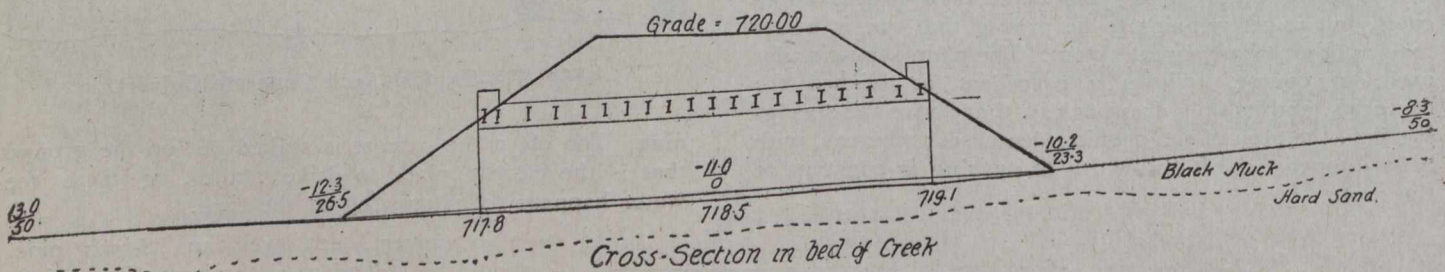

Fig. 9.
other. (Fig. 9.) A formula is convenient for estimating, but no amount of figuring is as satisfactory as measuring the distance on a sheet of cross-section paper, as the following instance will show. On a standard plan of a 20-ft. arch the bottom of the culvert was marked "ground
the shape of the wing-walls. If a sketch plan had been made similar to the one shown in Fig. 9 this mistake could not have occurred.
**Grade.**—After the centre line is located the next thing is to determine the floor level at the intake end, and if the stream-bed is of a hard, non-erosive soil, this point can be kept as high as the natural bed, but if the soil is soft or covered with muck, then the floor level had better be sunk as low as possible. The profiles (see Fig. 9) will show how far this can go, and if the soil is still bad, then the intake end must be paved, and particular attention paid to the apron.